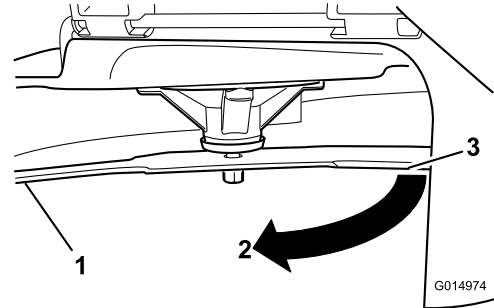

Figure 89
4. Rotate the same blade 180 degrees so that the opposing cutting edge is now in the same position (Figure 89).